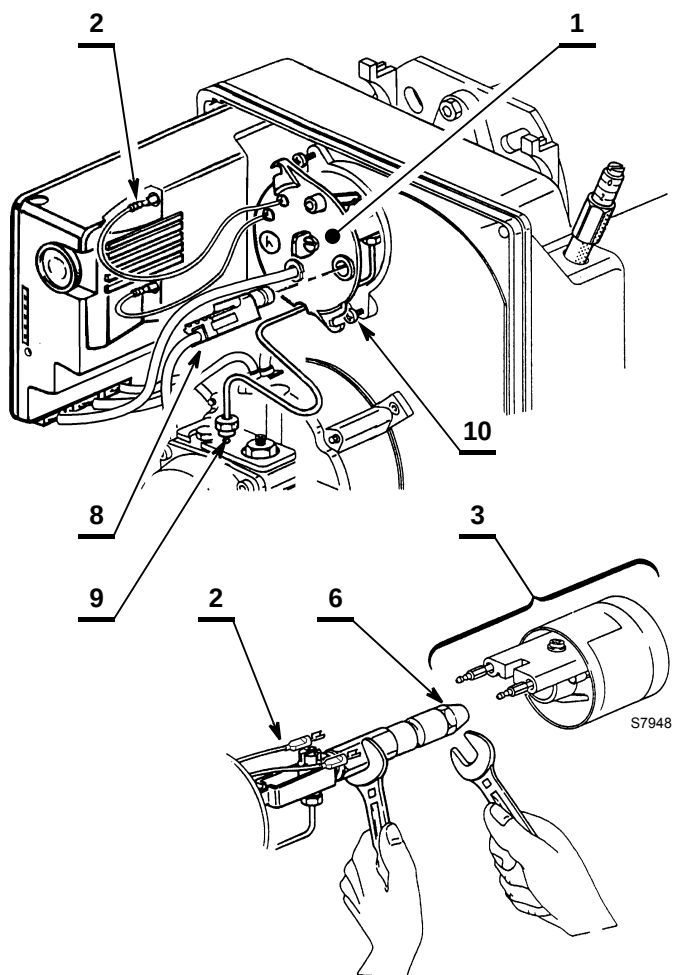

Fig. 13
1st Method (Fig. 13):
- remove the wires 2)(Fig. 13) from the control box, the flame sensor 8) and unscrew the nut 9) from the pump.
- Remove the wires 2) from the electrodes, loosen the screw 4)(Fig. 13) and remove the diffuser disc-holder assembly 3) from the nozzle-holder assembly 1).
2nd Method (Fig. 13):